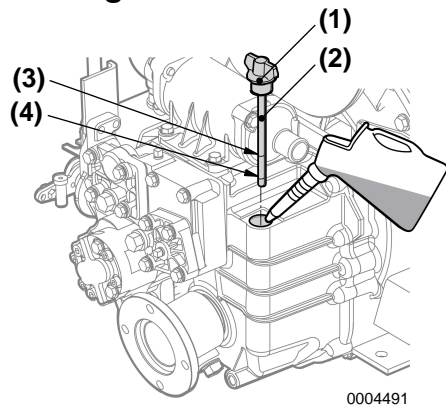

Figure 9
2. Remove the filler cap (**Figure 9, (1)**) at the top of the housing.
3. Remove dipstick (**Figure 9, (2)**) and wipe with clean cloth.
5. Remove dipstick. The oil level should be between upper (**Figure 9, (3)**) and lower (**Figure 9, (4)**) lines on the dipstick.
3. Fill with oil to the upper limit on the dipstick (**Figure 9, (3)**). See *Marine Gear Oil Specifications* on page 38.